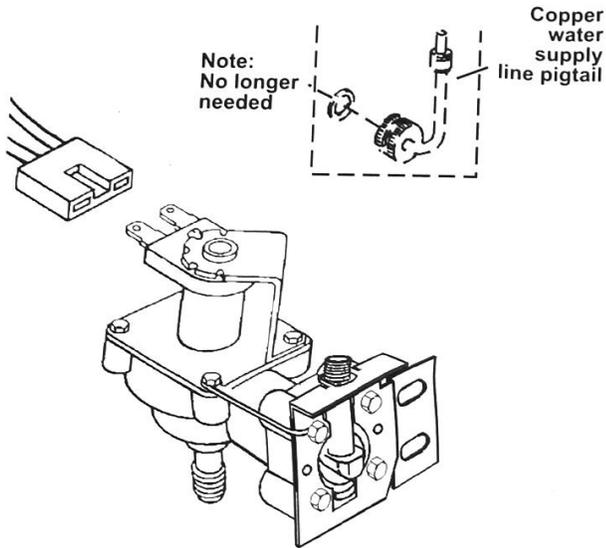
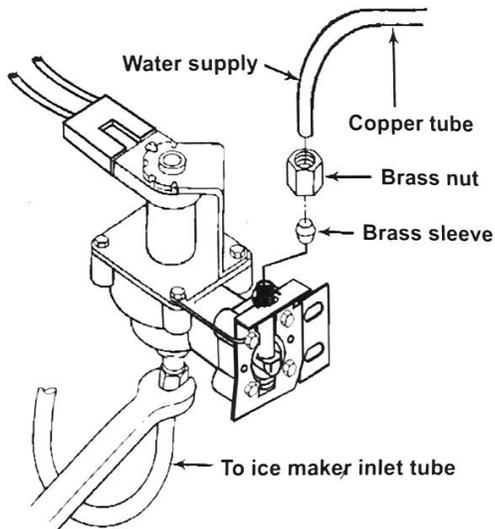

Figure 9
Figure 10
17. Your new valve will no longer need the copper water supply line pigtail. See Figure 9. You do need to keep one of the old brass nuts and brass sleeves to remount the main water line to the valve assembly. See Figure 10.
NOTE: The repositioning of the water valve in an upright or vertical position, as shown in Figure 10, may leave the plastic water tube too short to attach it to the valve. Provided in the kit are twelve (12) inches of plastic tubing for lengthening the water line, one tube insert, one compression nut and one union connector.